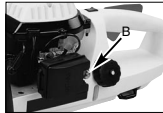

Fig. 3C
5. Prime the carburetor. Pump the prime bulb (B) 10 times (Fig. 3C).